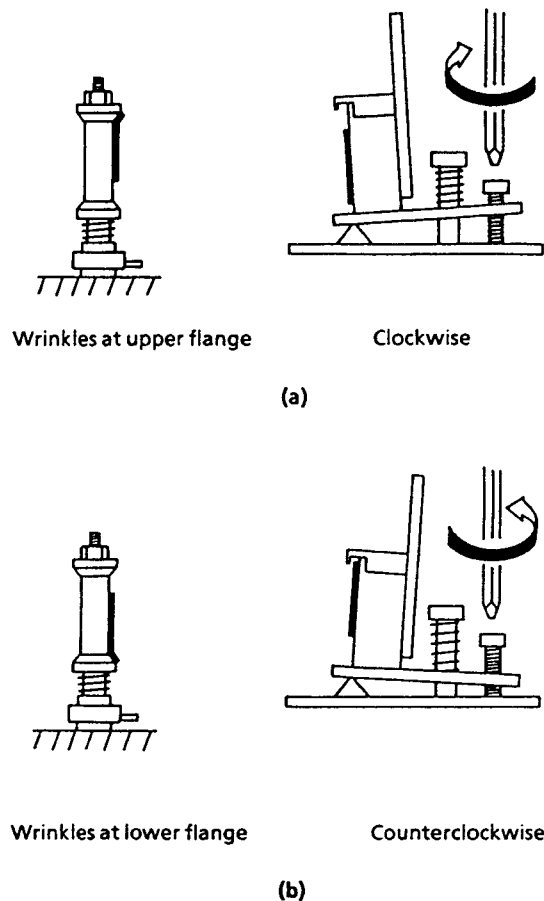

Figure 1-55.
- 1) Wrinkles at the upper flange : Turn the above adjusting screw clockwise, as shown in Figure. 1-55 (a)
- 2) Wrinkles at the lower flange : Turn the above adjusting screw counterclockwise, as shown in Figure. 1-55 (b)